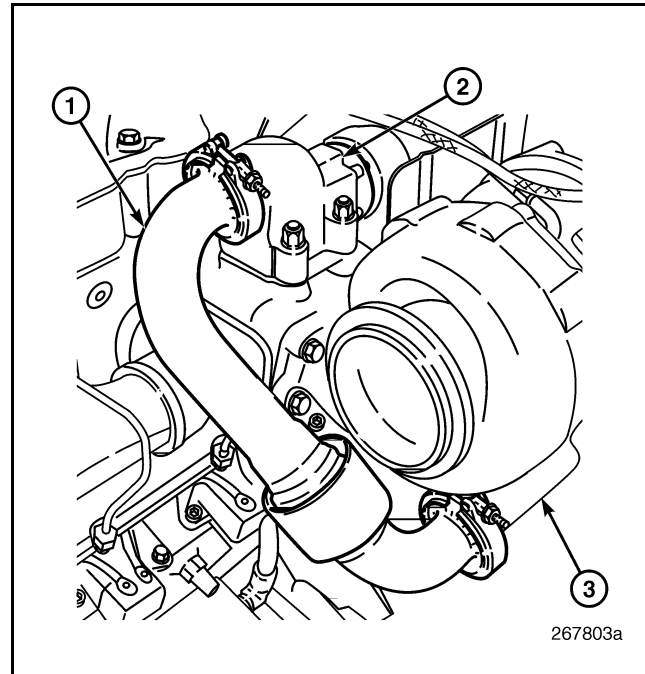

Figure 489 — EGR Gas Hot Tube, Installed
- Install **new** seals in the flanges at each end of the EGR hot tube. Place the hot tube in position between the EGR valve and cooler (Figure 489). Make sure that the gap between each set of flanges is uniform all around. Install **new** T-bolts and nuts in the clamps and tighten to specification, 110 lb-in (12.4 N•m).